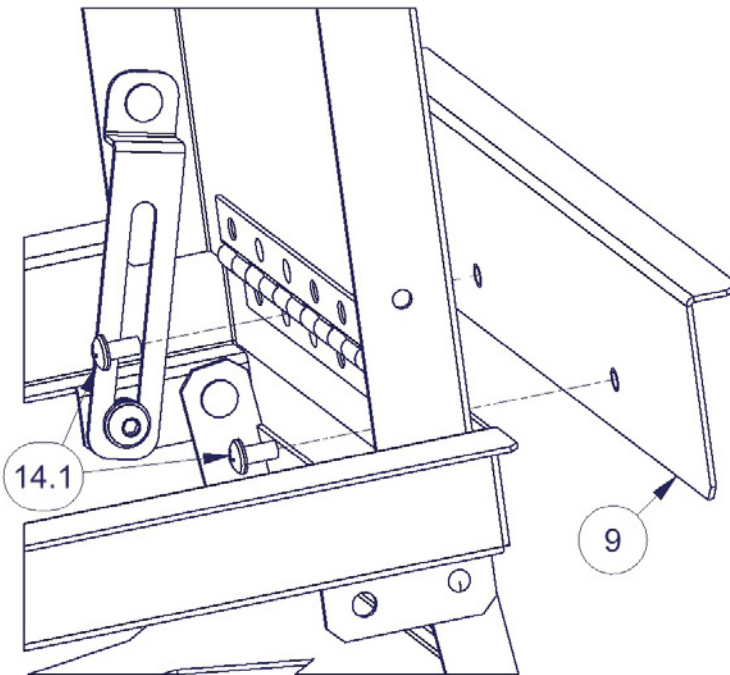

Figure 3
5. Open the Insert Lid and install the #9 Rear Plate using (2) of the #14.1 Machine Screws. It is generally easier to align the holes in both components when the front of the Insert is elevated. See Figure 3